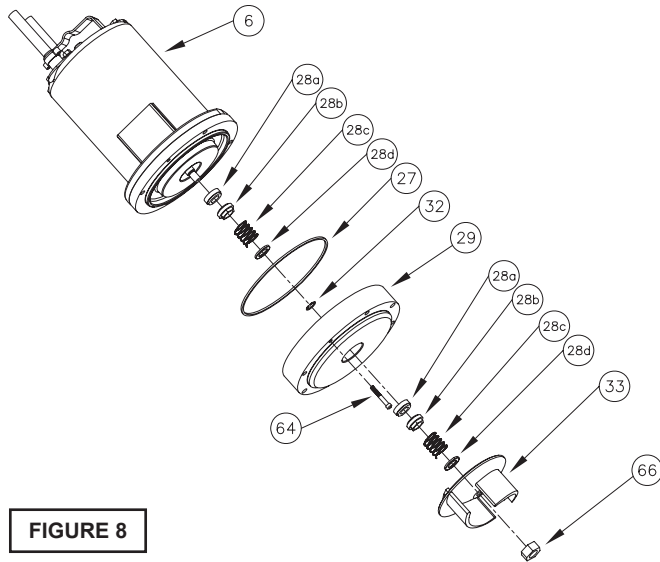

FIGURE 8
Inner Seal (DS Units Only)- To expose inner shaft seal (28) for examination, remove outer seal as outlined above. Remove socket head cap screws (64). Lift outer seal plate (29) and square-ring (27) from inner seal plate (5) see Figure 8. If further repair is required, remove snap ring (32), retaining ring (28d), spring (28c) and rotating member (28b) from shaft. Examine as outlined in outer seal paragraph. If replacing seal, remove stationary (28a) by prying out with flat screwdriver.